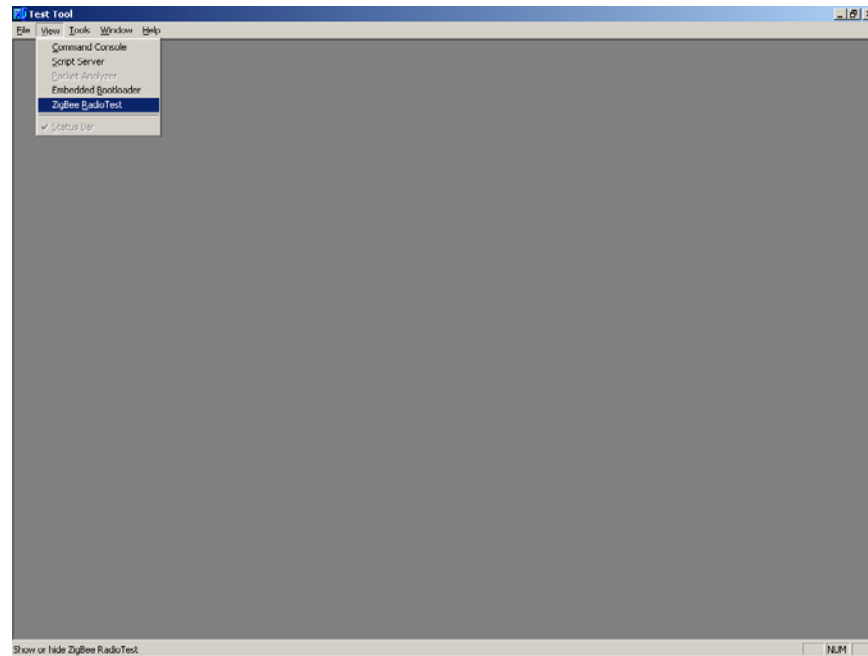

Figure 27 Test Tool Window (ZigBee Radio Test Selection)
1. To launch the Radio Test Script, select the “ZigBee Radio Test” option from the “View” menu in the Test Tool main window as shown in Figure 27.